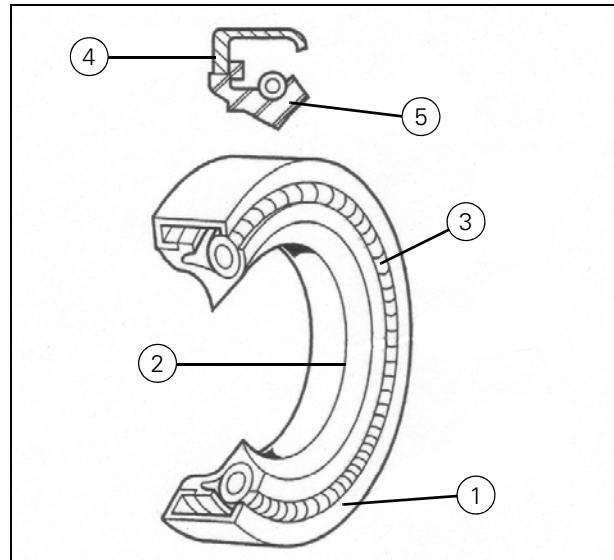

Fig. 4
In (Fig. 4) you can see a single "SPY" seal ring. In the cross section you can see the "flange" (4) and "pin" (5), which sit on the outside and inside respectively in a seal ring with a lip. With a few exceptions, the pin on an oil ring with a lip faces the lubricant side. Certain seal rings have an extra lip without spring.